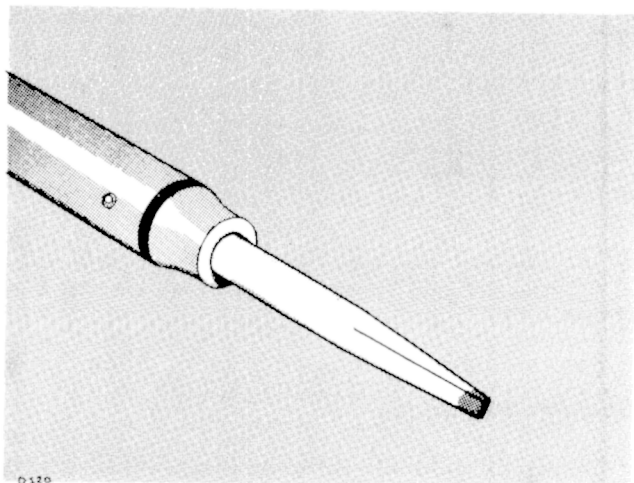

Fig. 4-1. Soldering iron tip properly shaped and tinned.
Because of the shape of the terminals on the ceramic strips it is advisable to use a wedge-shaped tip on your soldering iron when you are installing or removing parts from the strips. Fig. 4-1 will show you the correct shape for the tip of the soldering iron. Be sure and file smooth all surfaces of the iron which will be tinned. This prevents solder from building up on rough spots where it will quickly oxidize.
2. Prepare the tip of the iron as shown in Fig. 4-1.